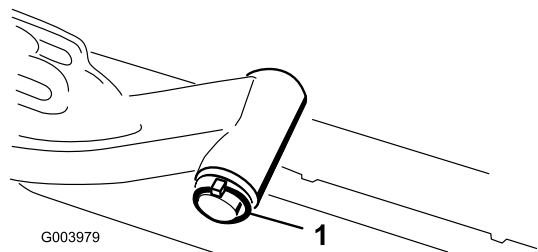

Figure 16
- A. Remove the lynch pin and washer securing the lift arm pivot shaft to the lift arm and slide the lift arm pivot shaft out of the lift arm (Figure 16).
- C. Insert the lift arm shaft into the lift arm and secure it with the washer and lynch pin (Figure 16).